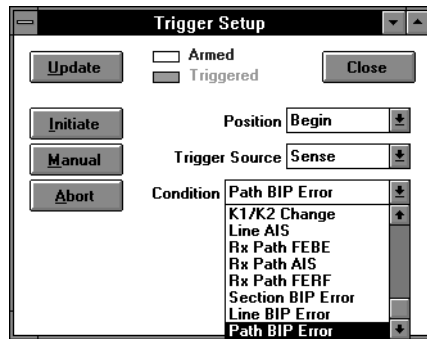

Figure 3-57: The Trigger Setup dialog box
1. Click on the **Payload Capt** command button in the RECEIVER window, then click on the **Set Triggers** command in the Triggers menu of the Payload Capture window. This action displays the Trigger Setup dialog (see Figure 3-57).